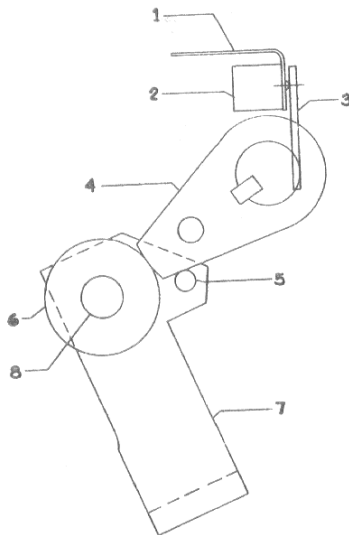

Figure 13. (0114C5320) Latch Checking Switch
Refer to Figure 13. Charge the closing springs sufficiently to reset the mechanism linkage. Rotate the trip latch (4) by pressing the manual trip lever